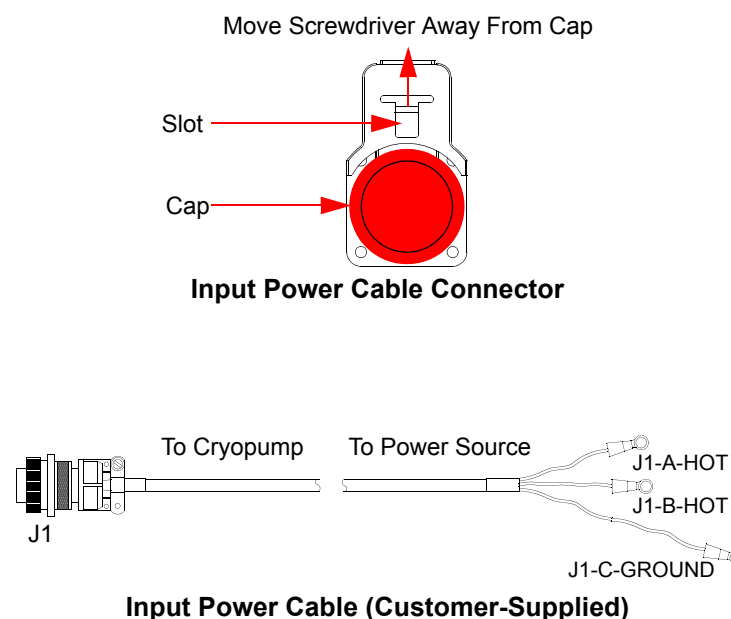

Figure 2: Input Power Cable Connector and Input Power Cable
See the following numbered steps in *Figure 1* and *Figure 2* for cryopump installation connections.
- 11 Remove cap and connect Input Power Cable (*Figure 2*).